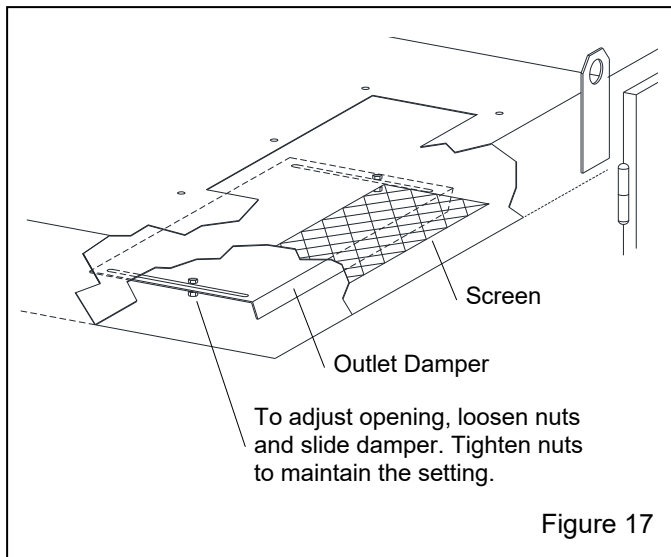

Figure 17
5.4.2 Adjust static pressure by opening or closing the outlet damper located above the reclaimer on the underside of the underside of the power module top, as shown in Figure 17. If the damper is not opened far enough, the reclaimer will not remove fines, resulting in dusty media and poor visibility, or will not convey media, causing media buildup in the hose between the cabinet hopper and reclaimer. If the damper is opened too far, it may cause carry over (usable media carried into the dust collector) and result in excessive media consumption. Open only as far as necessary to obtain a balance of maximum dust removal without media carry over.